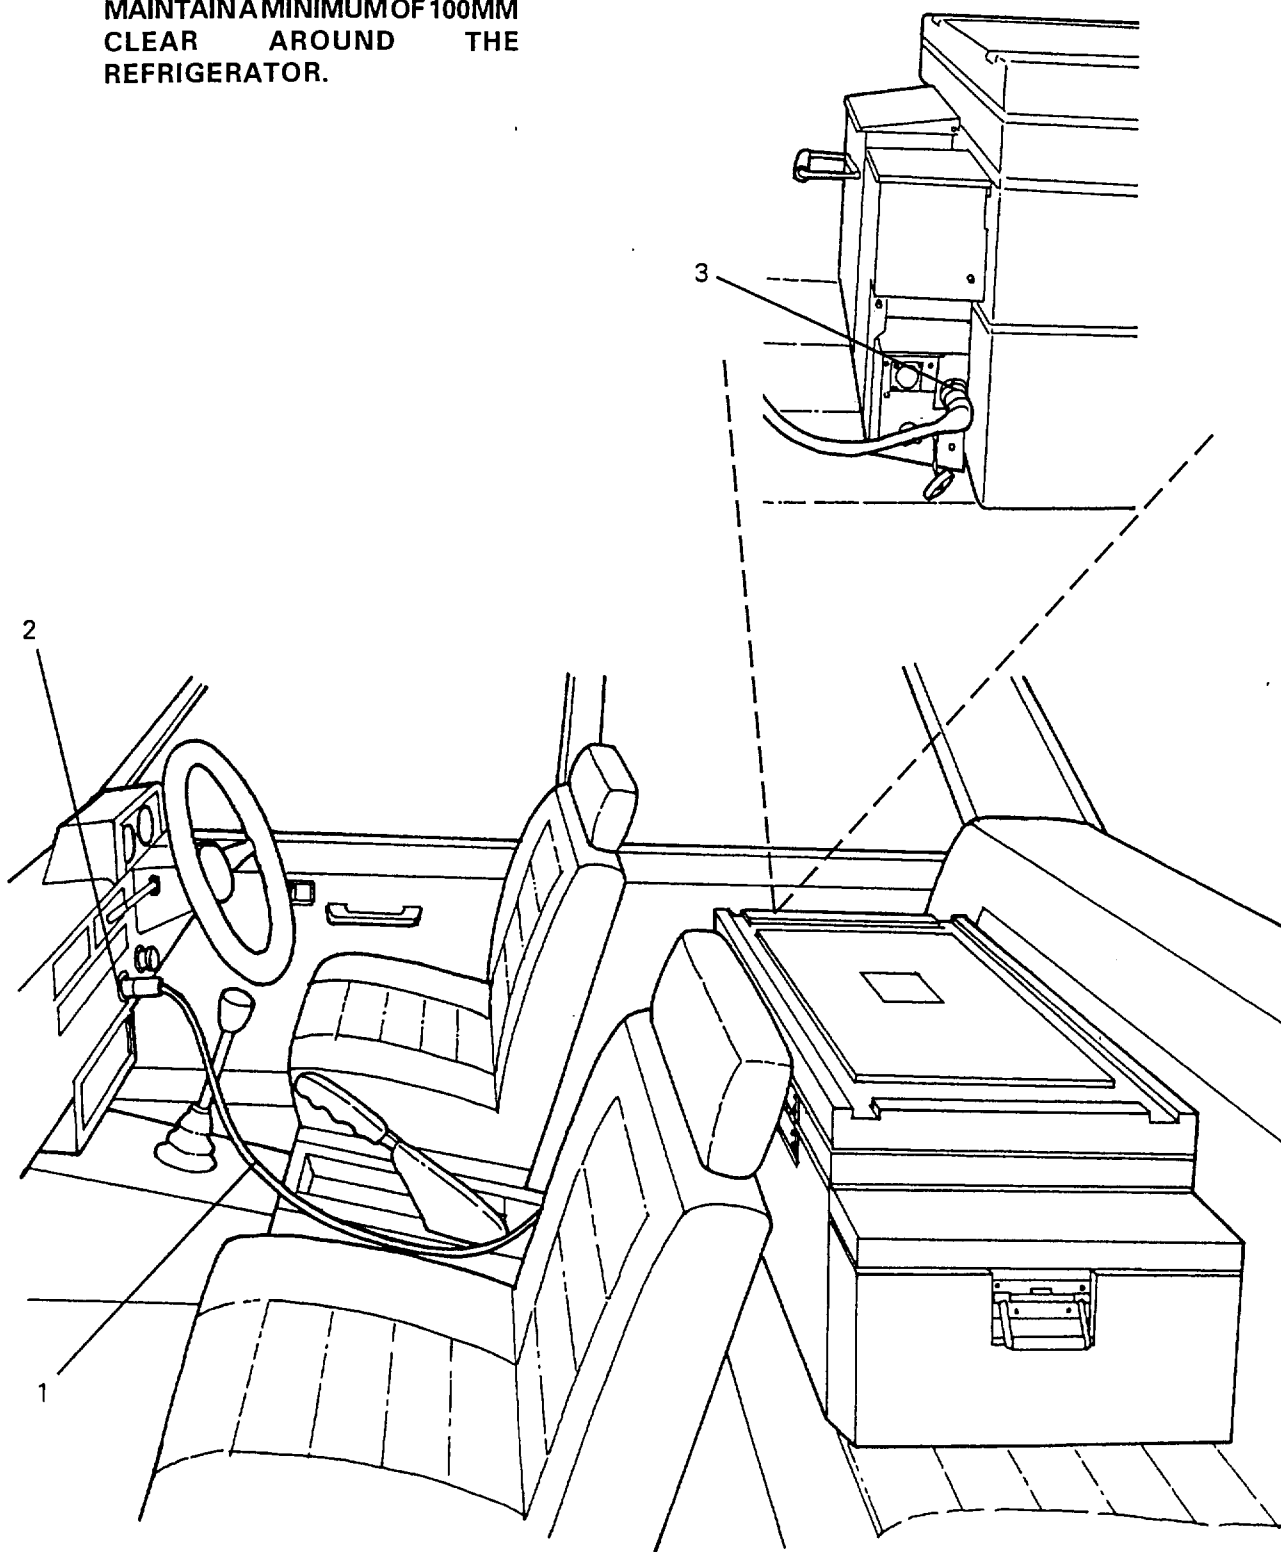

Figure 3-7 — 12 Volt Vehicle Power Cable
311. Plug the vehicle lead (1) into the cigarette lighter (2). Connect the vehicle cable into the extension cable and connect the angle plug of the extension cable (3) to the refrigerator (Fig 3-7).